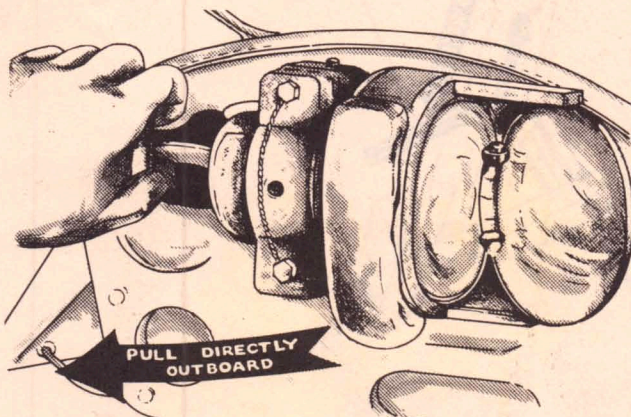

Figure 40—Unstowing Fixed Gun Sight
(1) Early airplanes are equipped with a Mark VIII illuminated sight which can be used as a gun sight, bomb sight or torpedo director. (See figure 40). On later planes the sight is fixed and the reflector for the sight is incorporated as a part of the bullet-proof windshield.
(2) To unstow the sight, hold the tee handle to the left, pull aft on the sight, and turn it to a vertical position; to stow it, hold down the tee handle, rotate the sight 90° clockwise, and push it forward.
(3) To operate the sight turn the rotary knob labeled "GUNSIGHT OFF-BRIGHT" clockwise until